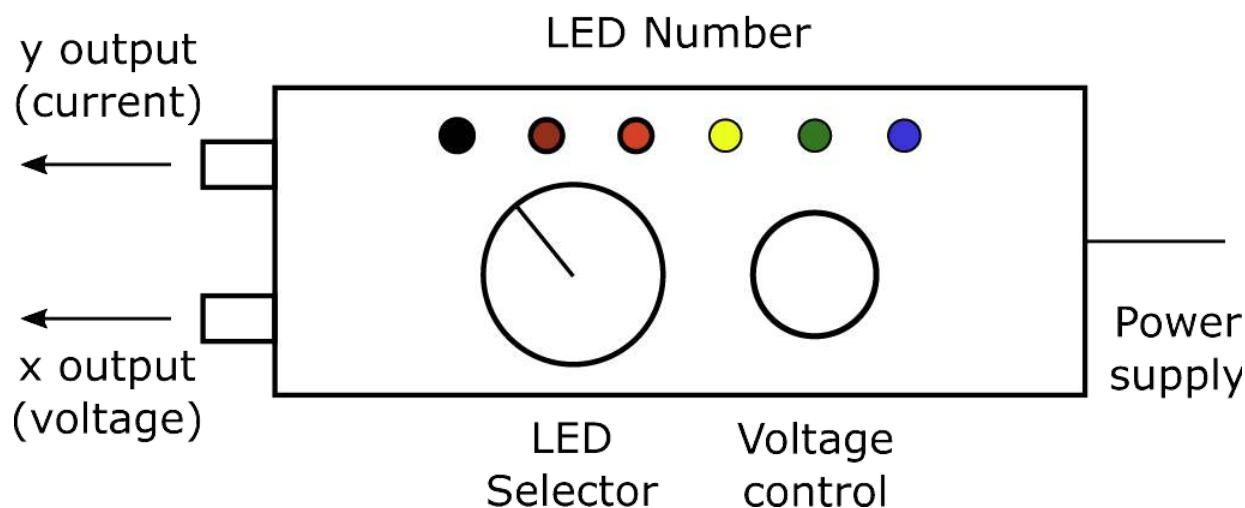

Figure 5.4: Sketch of LED Apparatus (CC BY-NC-SA;?????)
Figure 5.4 shows a sketch of the apparatus that houses the LEDs with its attached power supply. An individual LED is chosen by the selector switch. Position 1 on the switch corresponds to LED 1 (blue) and position 6 to LED 6 (IR). Intermediate positions on the switch select the other LEDs in order of their emission wavelengths. Position 0 disconnects the LEDs from the circuit. The other control adjusts the maximum applied voltage and, thereby, the intensity of the light emitted by the chosen LED. The two BNC connectors on the apparatus provide two output voltages. The output labeled X gives the voltage that is applied across the LED. The output labeled Y gives a voltage that is proportional to the current through the LED (the current in amps is given by 0.01 times the Y output in volts).